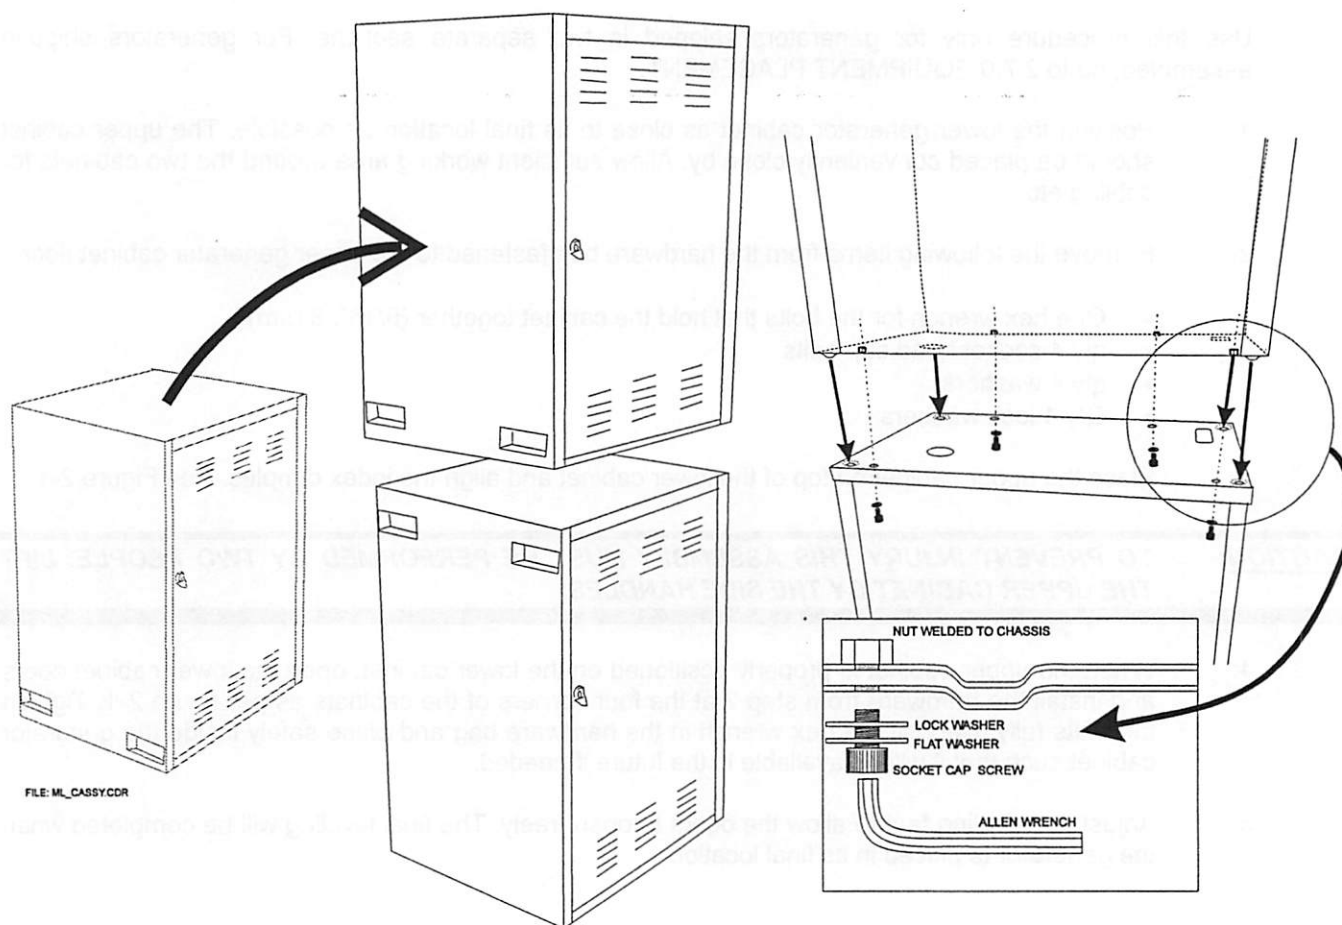

Figure 2-1: Generator cabinet assembly.
3. Place the upper cabinet on top of the lower cabinet and align the index dimples. See Figure 2-1.
4. When the upper cabinet is properly positioned on the lower cabinet, open the lower cabinet doors and install the hardware from step 2 at the four corners of the cabinets as per figure 2-1. Tighten the bolts fully. Deposit the hex wrench in the hardware bag and place safely inside the generator cabinet such that it will be available in the future if needed.